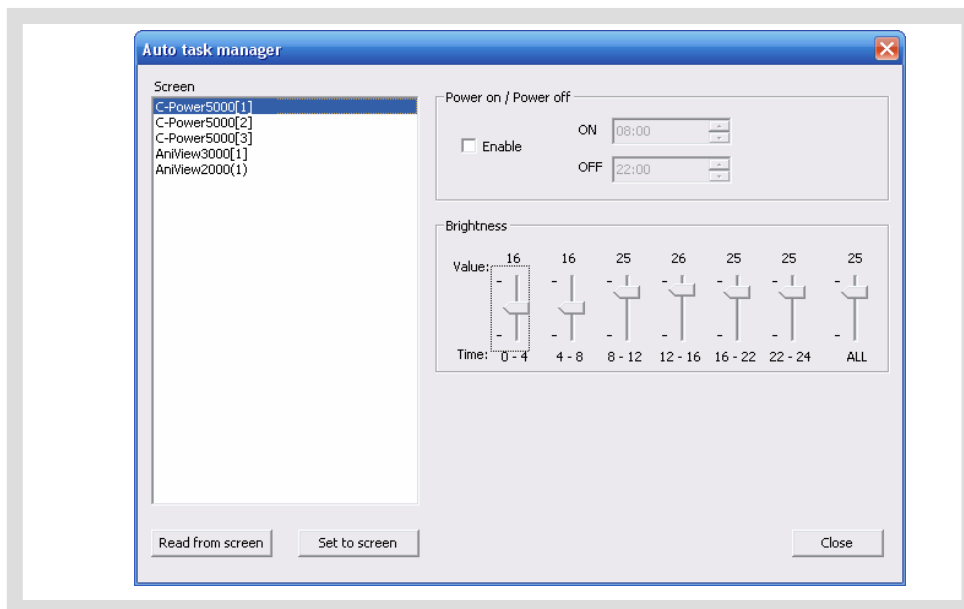

Figure36 Auto task manager
- 1) Click “Setting” – “Auto task” in menu. The dialog box of “Auto ask manager” pops up, as shown in Figure36.